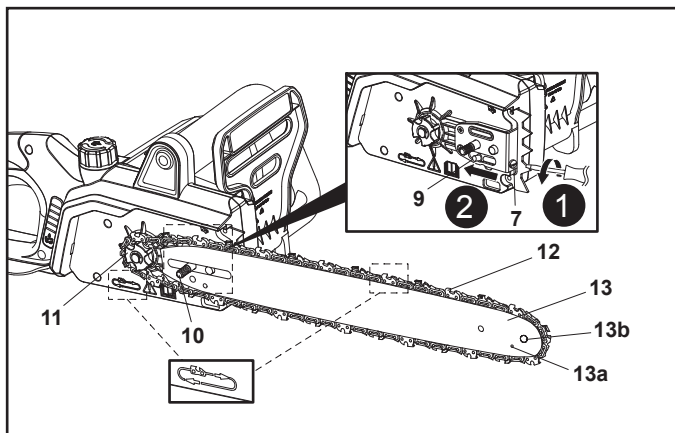

Fig. 3
5. Align the saw chain (12) and guide bar (13) assembly with the drive sprocket (11) and the mounting bolt (10). Lay the saw chain (12) around the drive sprocket (11) and then lower the guide bar (13) to install it to the mounting bolt (10) (Fig. 3).
6. Make sure the tension pin (9) is inserted into the lower hole on the guide bar (13). Screw the tension screw (7) fully anticlockwise to adjust the tension pin (9) to the end of slot with a suitable screwdriver (not supplied).